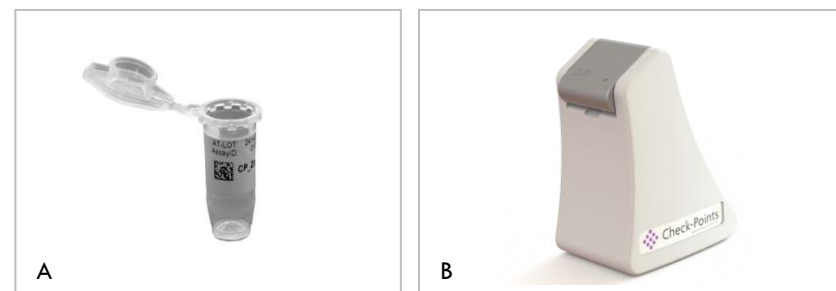

Figure 1: A) the CP Array Tube (AT) and B) the Check-Points Tube Reader.
- The ArrayTube™ DNA microarray platform (see figure 1) is sold under license from Alere Technologies GmbH.